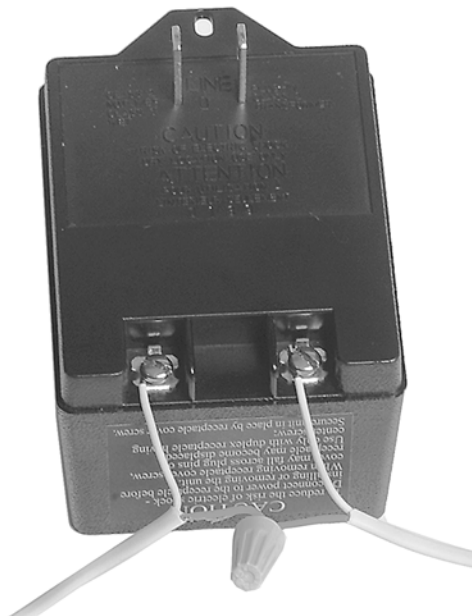

Fig. 50. Wiring Transformer.
4. At the transformer, connect both white conductors to the two transformer terminals. See Fig. 50.